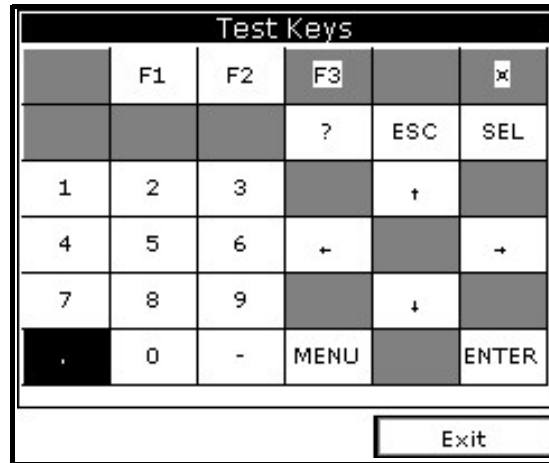

Figure 64: Test Keys Window
4. Use the arrow keys to scroll to Test Keys and press **[ENTER]**. The screen appears similar to Figure 64.